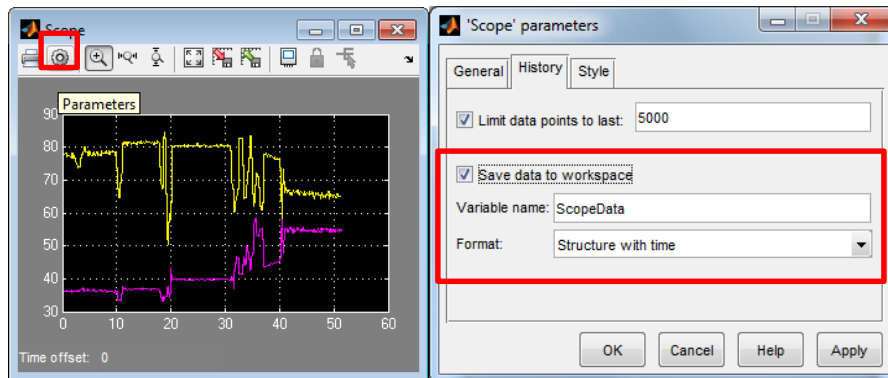

Figure 24: Logging data with the scope
- You can use the logging facility in the Scope (logging the historical information stored by the Scope) to record the time response of the centroid of the object. To do this, open the Scope and click Parameters (gear icon) in upper left of the Scope window and edit the History tab (Figure 24).